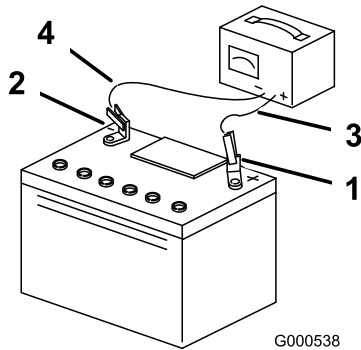

Figure 51
3. When the battery is fully charged, unplug the charger from the electrical outlet, then disconnect the charger leads from the battery posts (Figure 51).